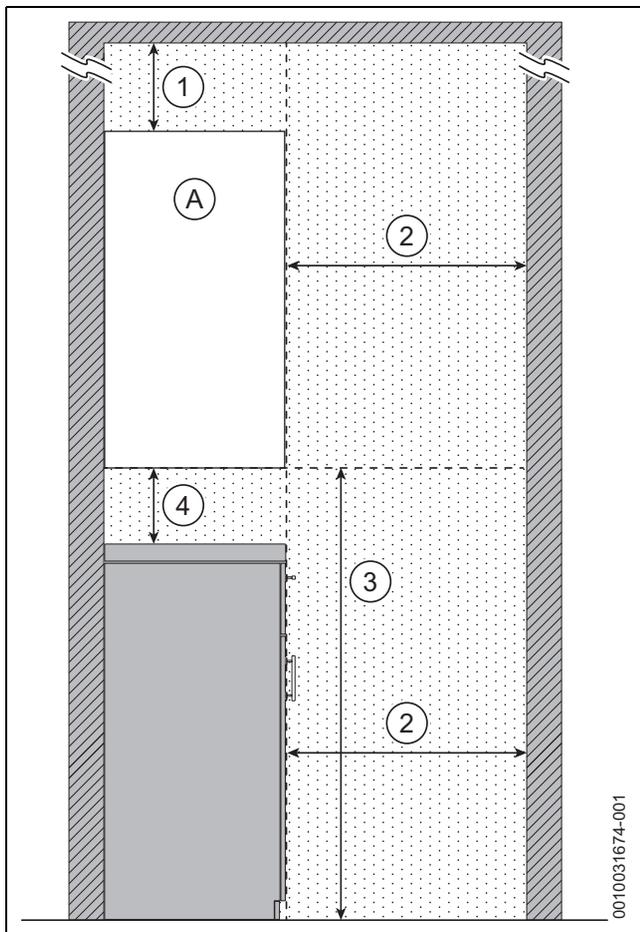

Fig. 8 Reduced front maintenance clearances - Side view
**i** Minimum clearances must be observed to any obstruction/ surface, (dark shaded areas, figures 8 and 9).